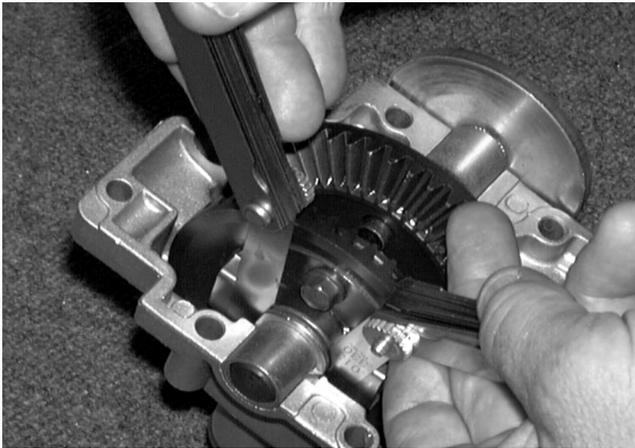

FIGURE 4.
- 17). Make certain the upper drive shaft assembly is within tolerance by placing two feeler gauges between the flat washer and the bushing behind each bevel gear. See figures 4 and 5.